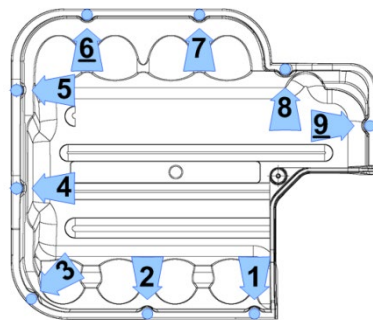

Figure 11 – Top Cover Torque Sequence
22. Install the outer three (3) High-Power Feedthrough Nuts and lock washers, and torque to 15.5 Nm (11.5 ft.lb.)
25. Place the Top Cover and secure it with the M5x15 fasteners according to the following sequence. Follow the sequence twice. The first time, only tighten the fasteners half way down to allow for adjustment. Torque to 13 in.lb. on the second pass. Refer to Figure 11 (Top Cover Torque Sequence).